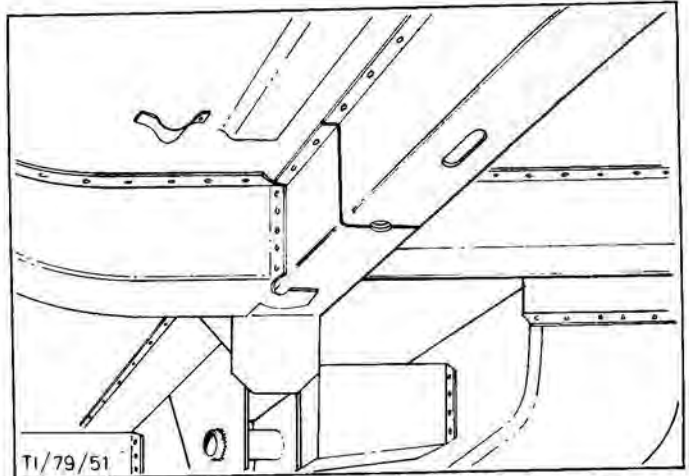

Fig.85. Mark side member at centre of threaded hole.
1. Mark damaged side member at centre of threaded hole, Fig.85.
8. Mark new side member at same point as shown in Fig.85 (centre of threaded hole).